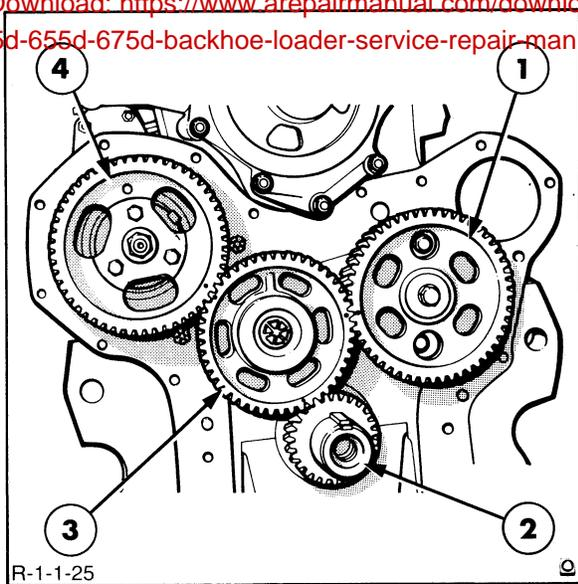
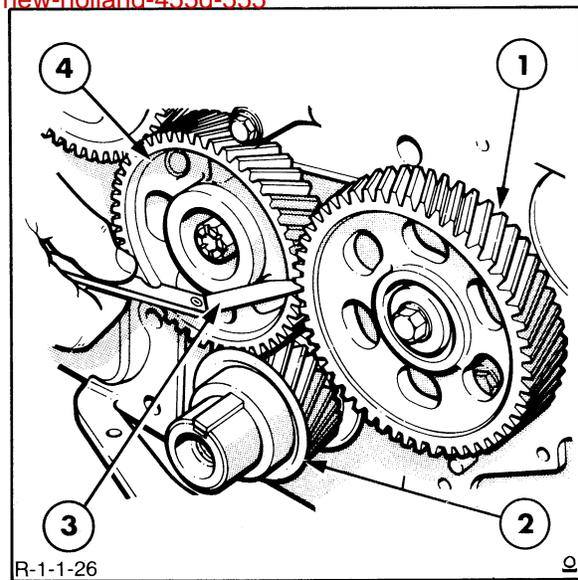

FIGURE 1-24
FIGURE 1-25
8. Before removing the timing gears, Figure 1-24, use a dial indicator or feeler gauges to measure the backlash between each set of mating gears, Figure 1-25. Rotate